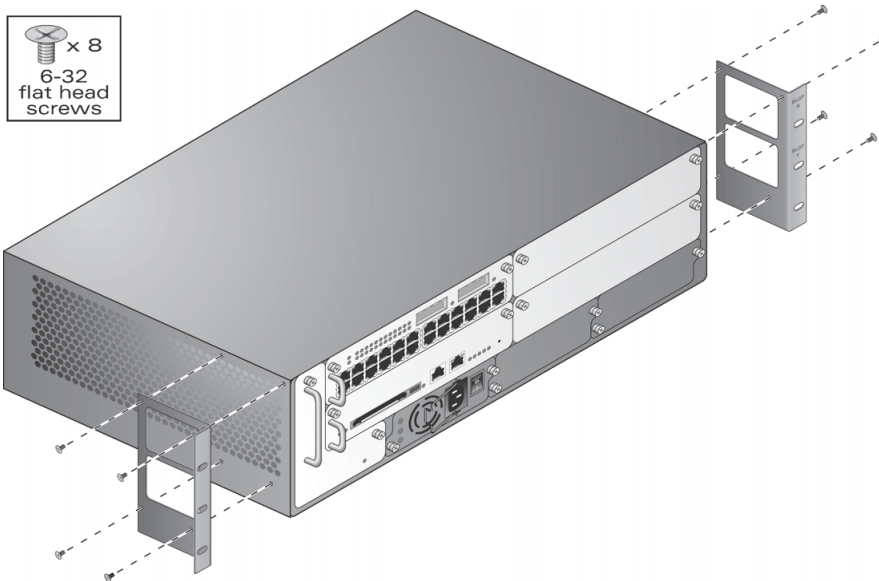

Figure 3-2 Attaching the Rack Mounting Brackets to the Aruba 6000 chassis
- Attach the rack mounting brackets to the switch chassis as shown in Figure 3-2.